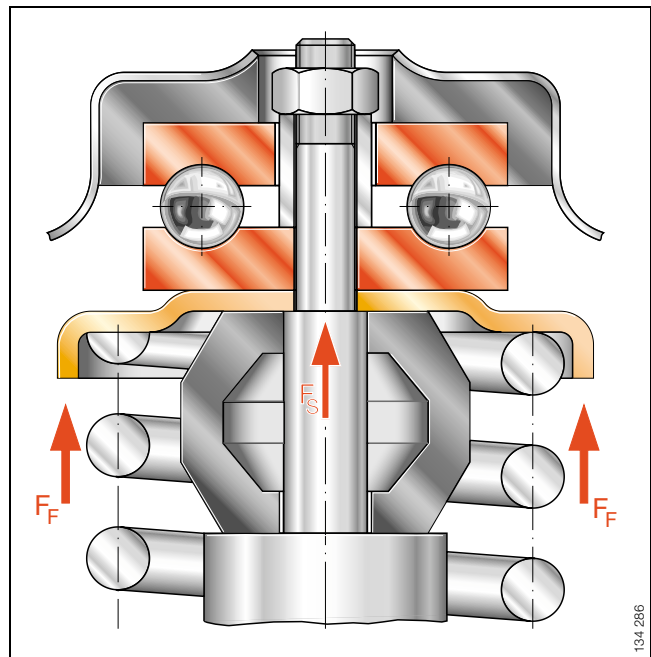

Figure 1 · Bearing receives shock absorber and spring forces
- Shock absorber forces  $F_S$  and spring forces  $F_F$  are absorbed by the bearing (Figure 1)